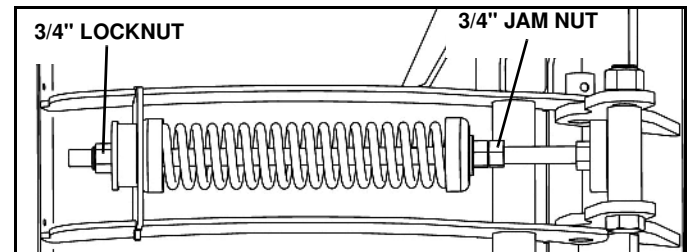

Figure 3-3
3. Tighten the 3/4" jam nut against the adjustment nut to secure the 14" spring cup spacing. (See Figure 3-3)